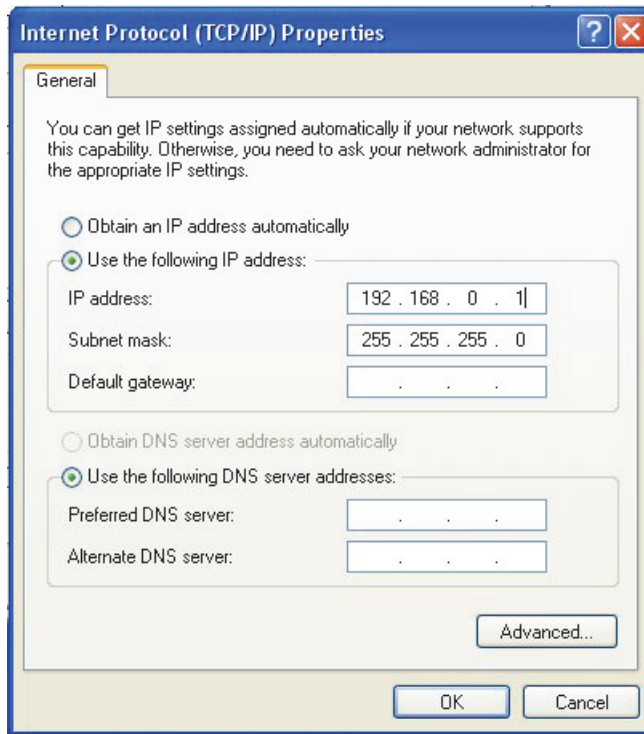

Figure 7-9 The Internet Protocol (TCP/IP) Properties dialog box (Windows XP)
7. In the **Internet Protocol (TCP/IP) Properties** dialog box, select **Use the following IP address** (see Figure 7-9 on page 200).